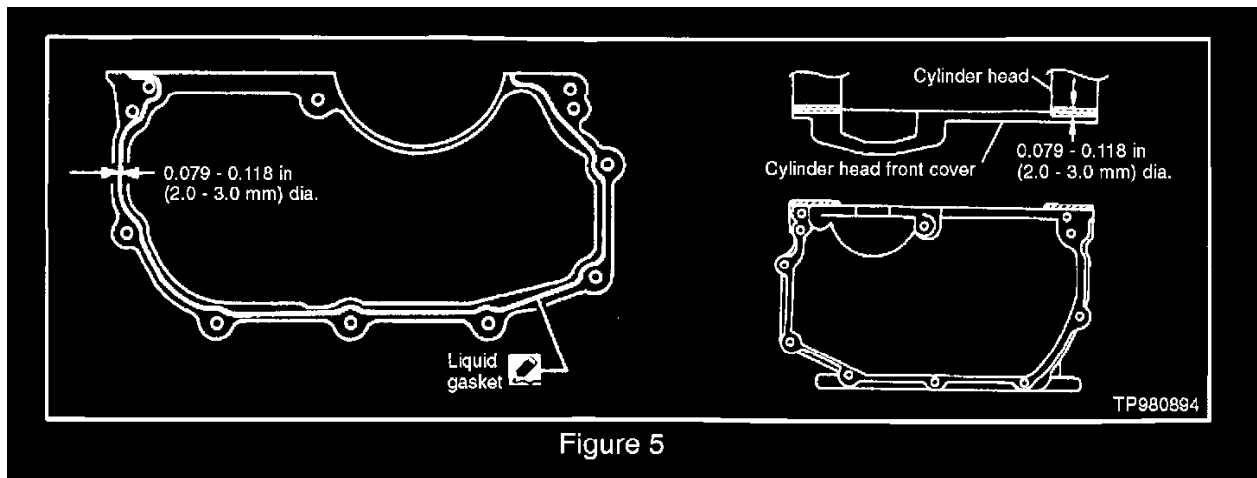

Figure 5
- b. Apply a continuous bead of RTV sealant to the cover as shown in Figure 5.